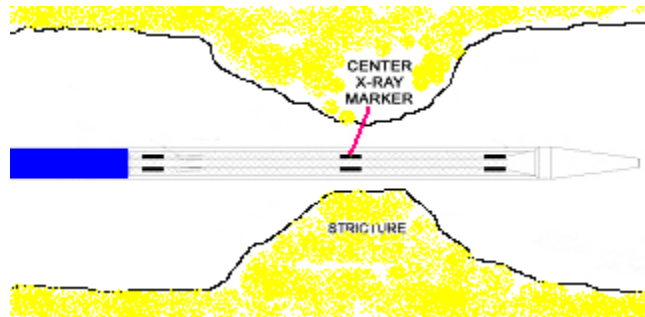

Figure 4. Stent Deployment Procedure
c) Under the fluoroscope and/or endoscopy guidance, position the introducer system to the center of the targeted stricture. (Based on center X-ray marker) (Fig. 4)